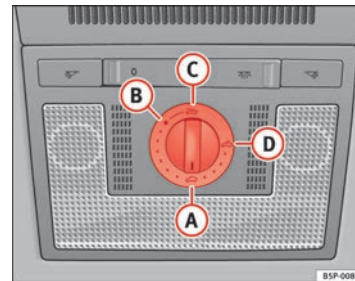

Fig. 70 Roof lining description: sliding/tilting sunroof rotary knob
- Turn the rotary button to position **A** ⇒ Fig. 70 ⇒ .